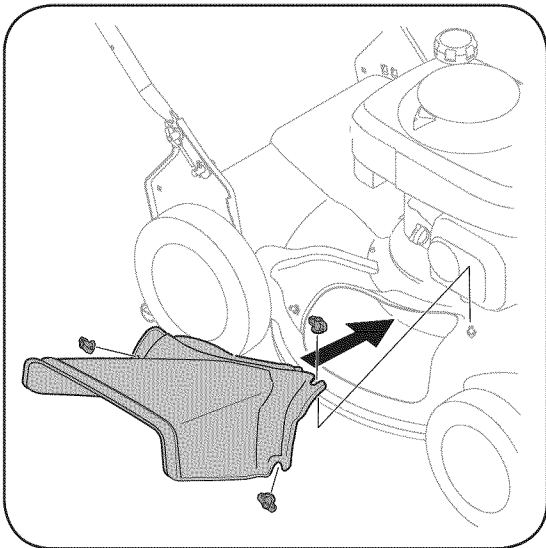

Figure 3-6: Remove mulching cover or grass bag before installing side discharge chute.
- b. Attach side discharge chute to unit and secure with the three wing nuts, Figure 3-6.